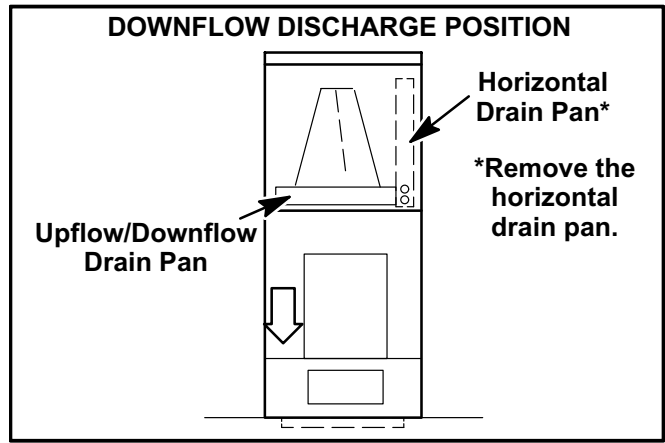

FIGURE 7
- 3 - For best efficiency and air flow, remove the horizontal drain pan from the units in downflow positions. See figure 7.
- 4 - Rotate cabinet 180° from the upright position. See figure 7. You may need to first remove the blower assembly to lighten the cabinet for lifting.
- 7 - Replace the coil assembly and blower if you have removed it. Replace the coil access panel. See figure 7.